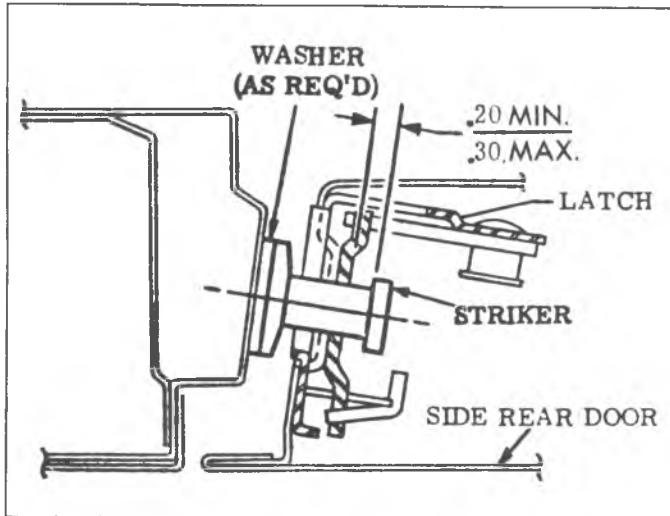

Fig. 29G—Rear Striker Adjustment
7. Open door and measure distance from rear of striker head to the impression. Distance should be .20" minimum to .30" maximum. Refer to figure 29G.